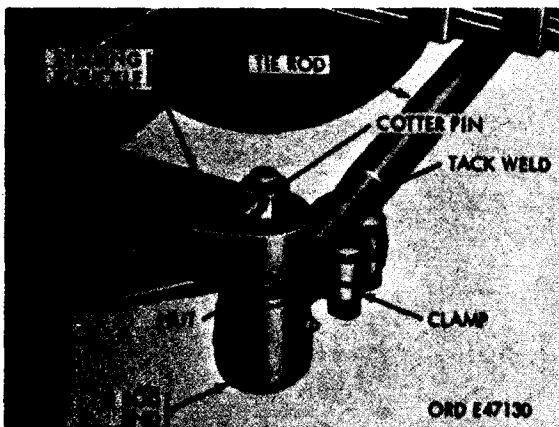

Figure 340. Tie rod assembly
a. Remove Tie Rod Assembly (Fig. 340).
- (1) Remove cotter pin and nut from tie rod end.
- (2) With suitable tools remove tie rod end from steering knuckle.
- a. Tie rod assembly (figure 340).
- (1) Screw tie rod end on tie rod.
- (2) Torque tie rod clamp nuts to 45 to 55 feet-pounds.